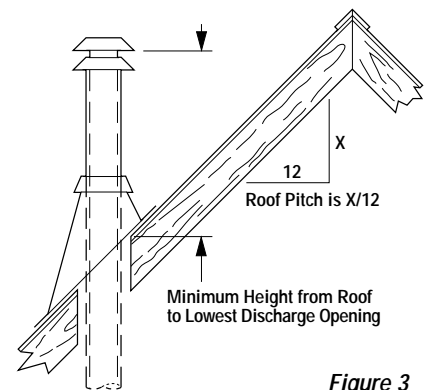

Figure 3
**Gas Vent Rule** – Gas vent caps are not permitted within 8 feet (2.4 mm) of a vertical wall or similar obstruction. Gas vent caps that are located 8' or more from a portion of a building which extends at an angle greater than 45° upward from the horizontal may terminate in accordance with **Table 1 (Figure 3)**, provided that in no case shall any discharge opening on the cap be less than 2' (610 mm) horizontally from the roof surface (National Fuel Gas Code ANSI Z223.1 (NFPA 54) 7.6.2) (CAN/CGAB149).